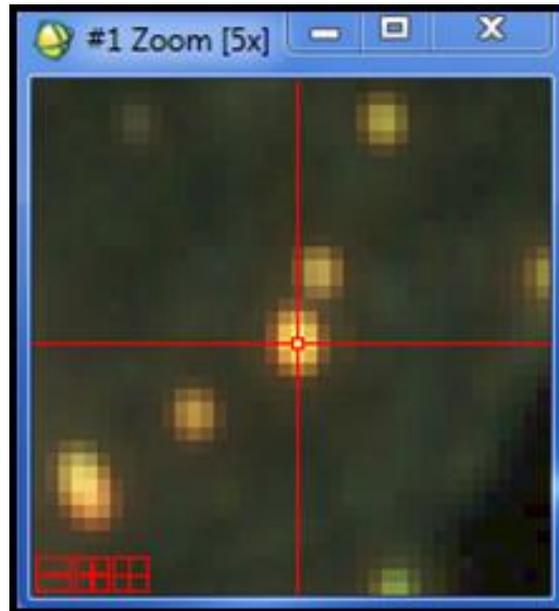

Figure 5.2b. Crosshair centered over particle in zoom window
- Using the Zoom Window, select a clear, distinct particle using the crosshair cursor (Figure 5.2b). We will use this particle to represent the AuNPs that are distributed throughout this image.